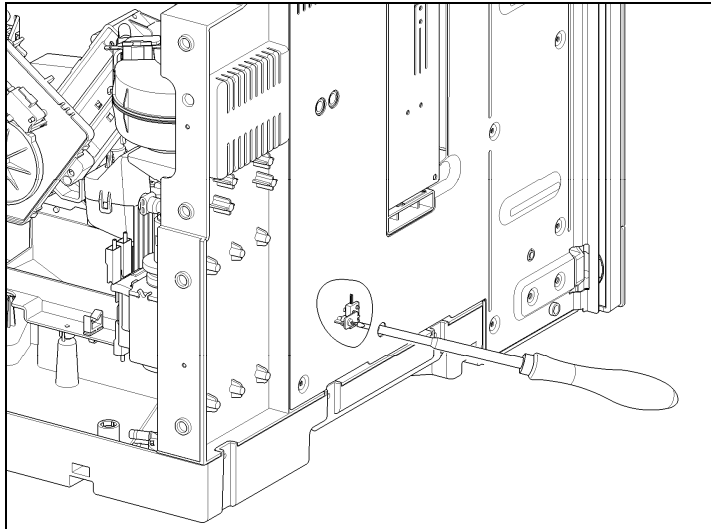

Figure 001-46: Access Hole for Waste Container Monitor Switch
6. Feed a T10 screwdriver through the access hole in the appliance. See Figure 001-46.